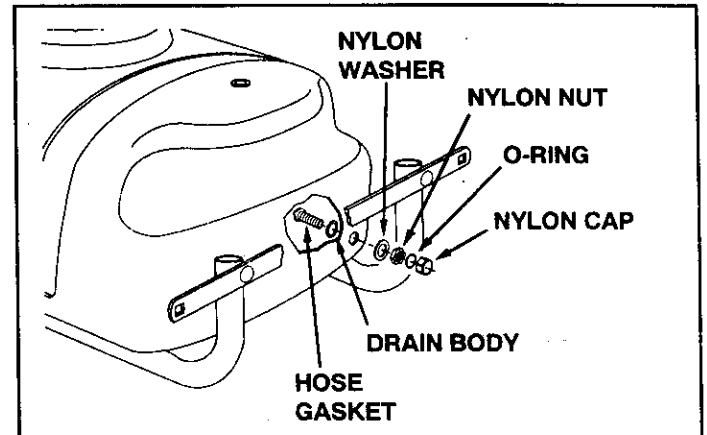

FIGURE 6
- Install the drain in the rear of the tank as shown in figure 6. Place a 3/4" garden hose gasket onto the drain body and insert the drain body out through the hole in rear of the tank. Outside the tank, assemble the nylon washer and then the nylon nut onto the drain body. Tighten the nut securely enough to prevent leaking, being careful not to damage the plastic parts. Place the O-ring inside the nylon cap and screw the cap onto the end of the drain body.